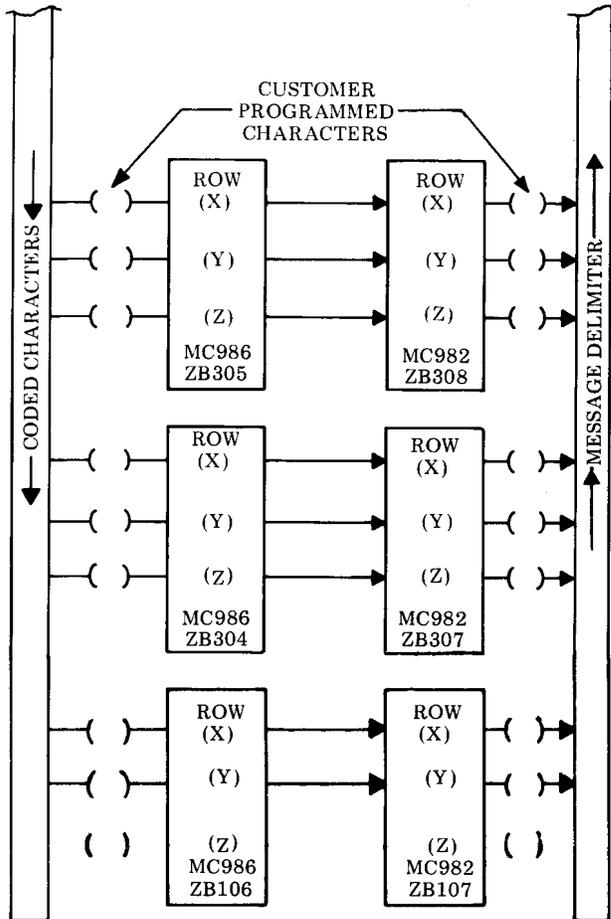

Figure 21 - CDIF806 and CDIF816 Transmit Section 8- to 5-Code Converter With Character Substitution
Note: Row Z is not programmed in CDIF816, card location ZB106 (MC986) (Figure 21).
5.99 Remove two TP322986 (MC986) circuit cards from ZB304 and ZB305 (Figures 7, 18, and 19). Program the circuit cards to recognize up to six different ASCII characters. For convenience, a permanent reference of the programmed cards may be made by recording the characters in the empty parentheses opposite the identified circuit cards shown in Figure 21. ASCII code information can be found in Figure 17.
theses opposite the identified circuit cards shown in Figure 21. ASCII code information can be found in Figure 17.